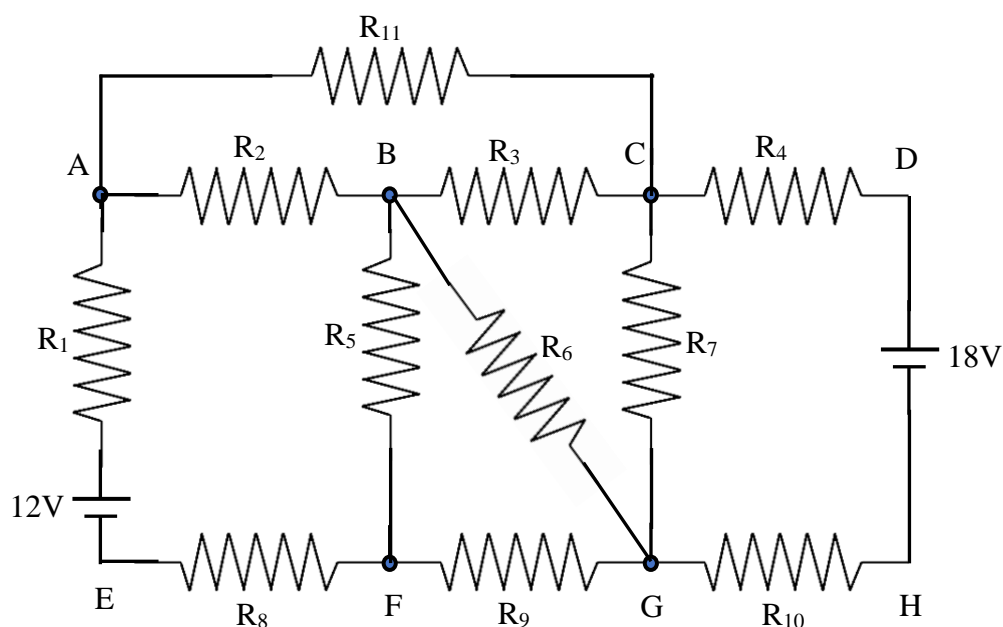

Figure 5.2: Kirchoff's Current Law
2. Connect the circuit on the bread board as shown in the figure 5.2.